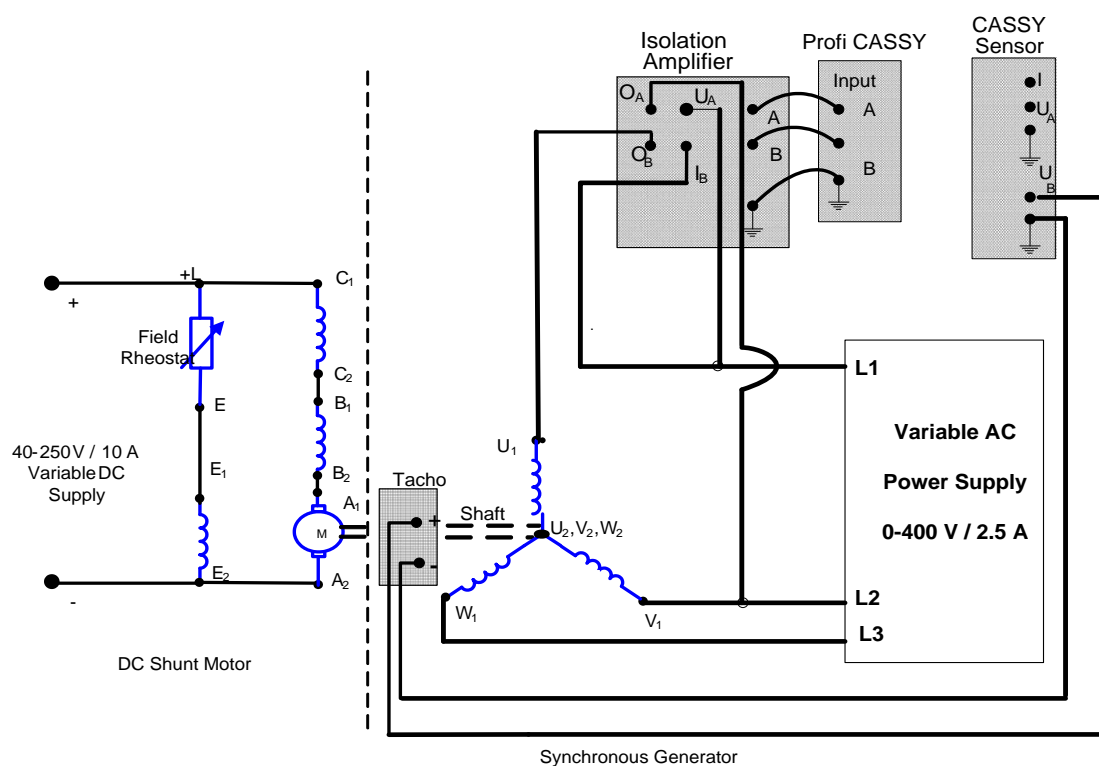

Fig. 3: Wiring diagram for the slip test
1. Connect the circuit as shown in the wiring diagram of Figure 3. Make sure that the switch S_1 is open.